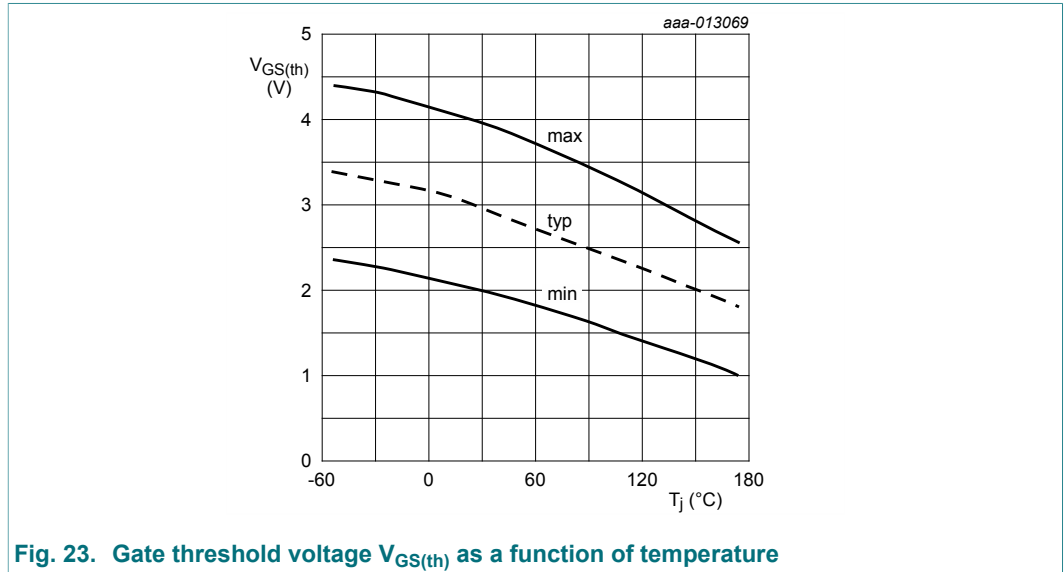

Fig. 23. Gate threshold voltage $V_{GS(th)}$ as a function of temperature
Referring to Fig. 23, the typical gate threshold voltage $V_{GS(th)}$ is 3 V. It rises to approximately 3.5 V at -55 °C (i.e. a rise of approximately 0.5 V). The highest $V_{GS(th)}$ rises from approximately
13.6. Q: Can Nexperia provide C_{GD} , C_{GS} and C_{DS} numerical values for $T_j = -55\text{ }^\circ\text{C}$ and $T_j = +175\text{ }^\circ\text{C}$ (at $V_{GS} = 0\text{ V}$, $V_{DS} = 16\text{ V}$)? If it is impossible to test, a theoretical one is also acceptable. A graph is provided in Figure 23, but it is for $T_j = +25\text{ }^\circ\text{C}$.